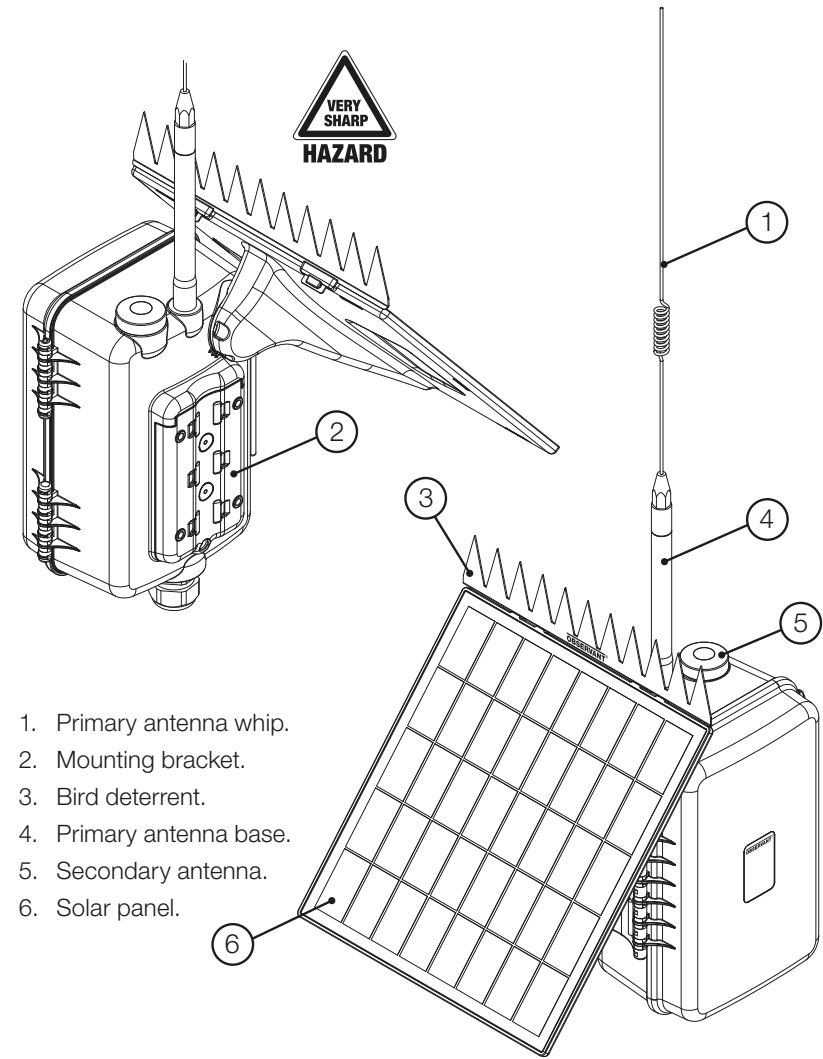

Figure 3. Solar Enclosure Outer Components
- Pole mount via hose clamps suitable for poles with diameters ranging from 1.5" nominal (48-90 mm actual) - (Figure 3, Item 2).